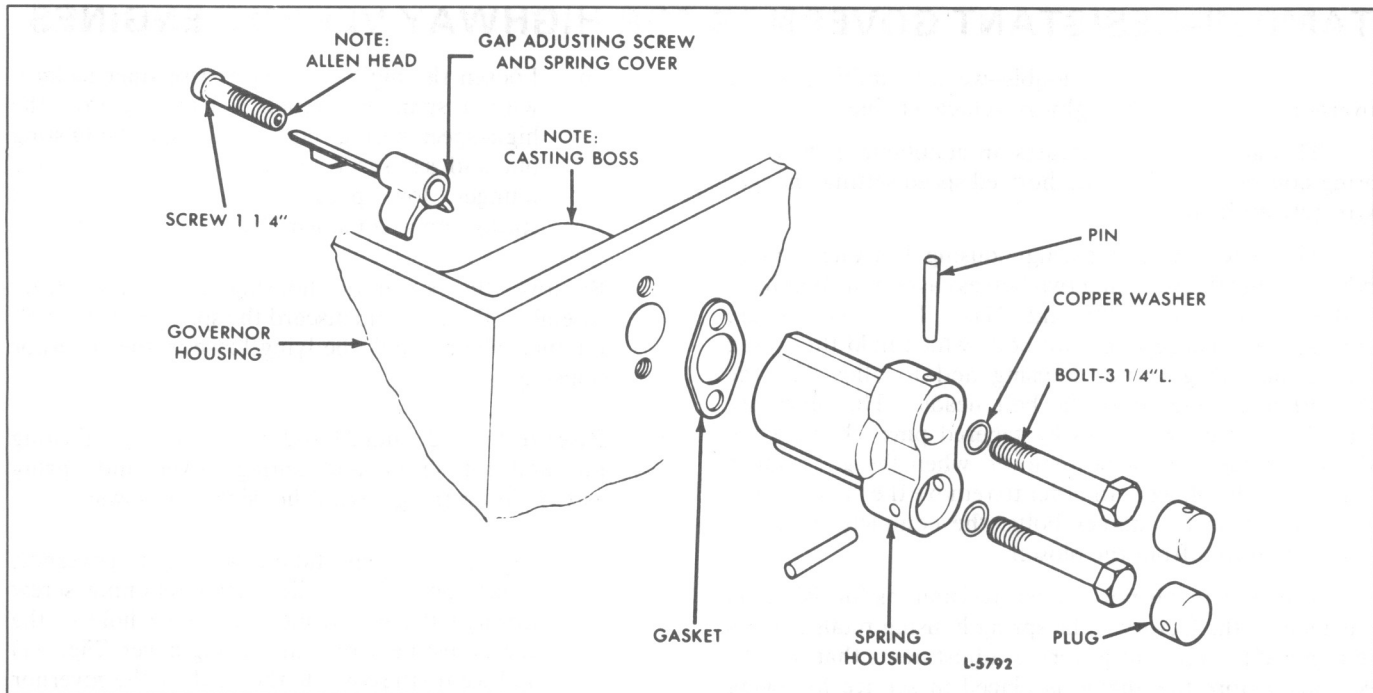

Fig. 21 – Tamper-Resistant Governor Components (Current)
- a. On the current tamper-resistant governor, insert the 1-1/4" Allen head retaining screw through the unthreaded clearance hole in the gap adjusting screw and spring cover (Fig. 21) and secure the cover to the inside of the governor housing. The retaining screw sets into a counterbore in the current cover. Turn the retaining screw into the housing until the cover is secure.
3. Refer to Fig. 21 and install the current gap adjusting screw and spring cover and the high and low-speed spring assemblies, replacing the original retainer with the new longer retainer in the governor housing as outlined under Step 3, Items a through f above.
With this procedure, two threaded inserts are installed in the governor housing, one from the inside and one from the outside. This will allow the new retaining screw to be installed on the inside of the governor housing and the new spring housing upper 3-1/4" bolt to be installed from the outside (Fig. 21).